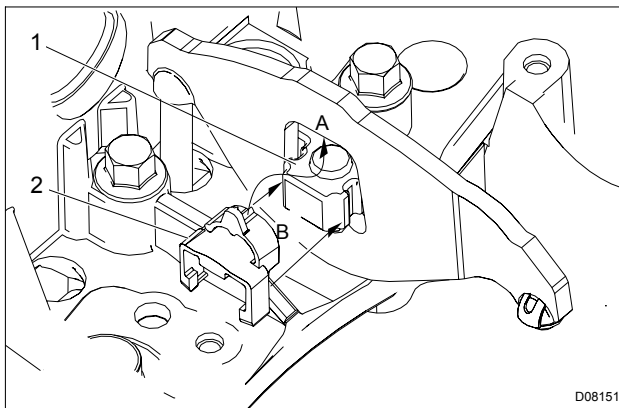

Figure 538 Position "A" in first then slide "B" around fulcrum plate
14. Install new plastic rocker arm retaining clip (Figure 538) by positioning top of clip to top of rocker arm